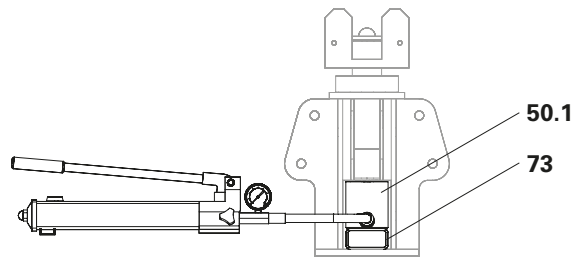

Fig. C2.02a
2. Position the hydraulic cylinder (**50.1**) on the Head Spindle Tube ATS (**73**). (Fig. C2.02a)